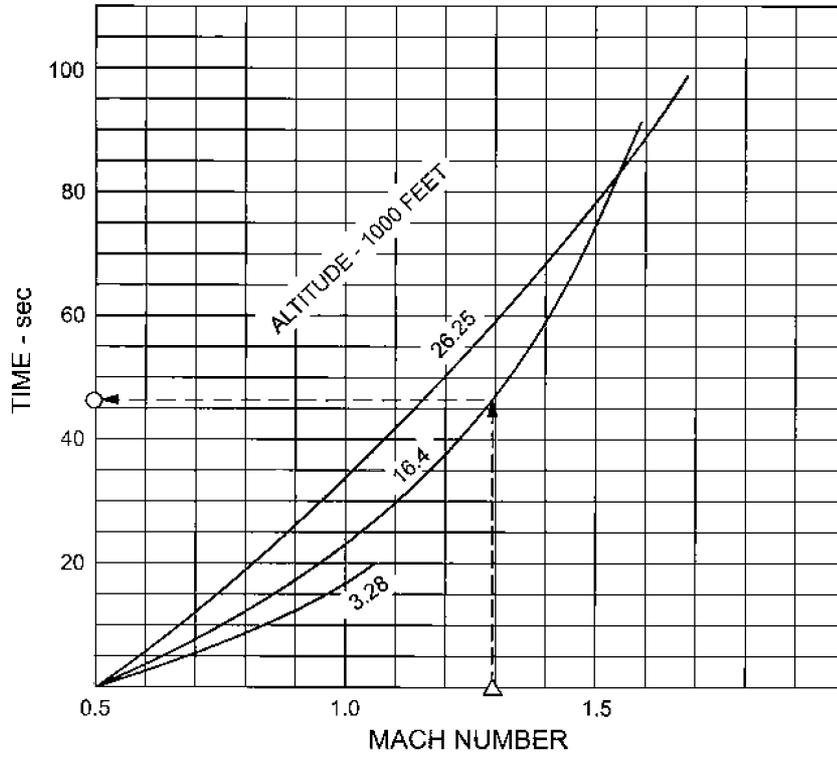
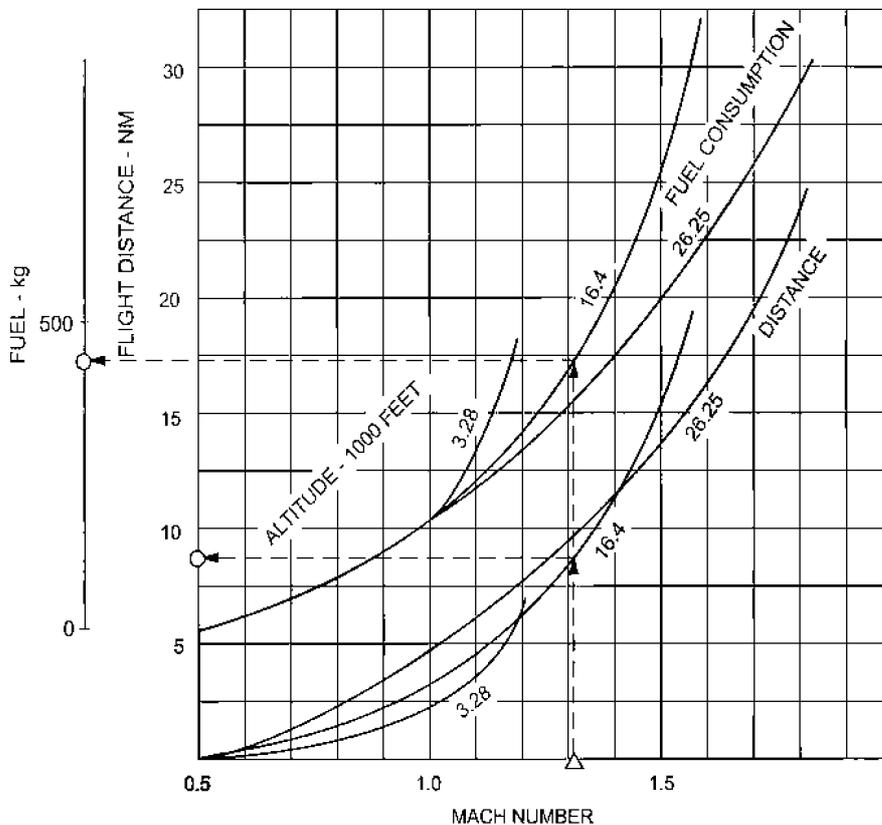

Figure A5-1
Figure A5-2
To obtain the required distance enter the chart in figure A5-2 with the final indicated airspeed (A), proceed vertically upwards to the pressure altitude (B) and project horizontally left to read the flight distance. To obtain the required fuel, continue from (B) vertically upwards to intersect the pressure altitude (D) and project horizontally left to the fuel baseline (E).
These charts present data for low altitude acceleration at an entry speed of Mach 0.5. To obtain the time refer to figure A5-1, for distance and fuel refer to figure A5-2.
Enter the chart in figure A5-1 with final indicated airspeed (A), proceed vertically upwards to